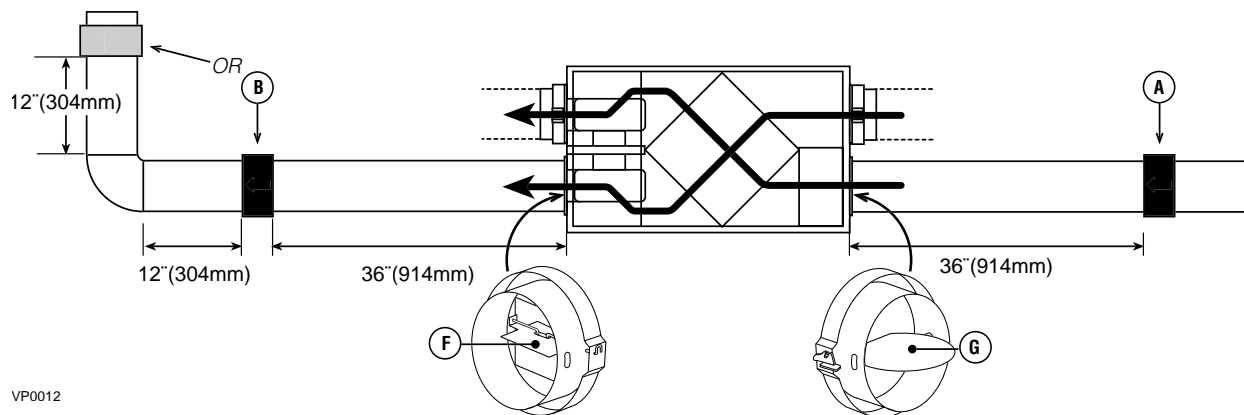

Figure 20
- Make sure the balancing dampers are fully open (F and G in figure 20).
Choose appropriate locations for the 2 flow collars (or flow measuring stations), according to figure 20: